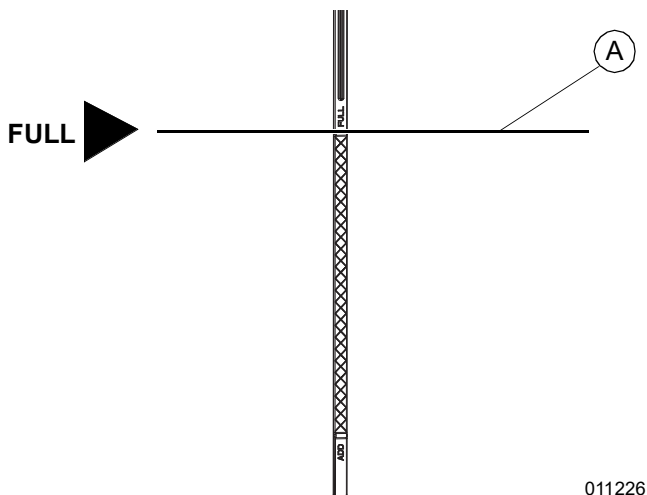

Figure 5-6. Oil Level Dipstick Full Mark
7. See Figure 5-6. Verify oil level is at or near FULL mark (A). Add oil as necessary.